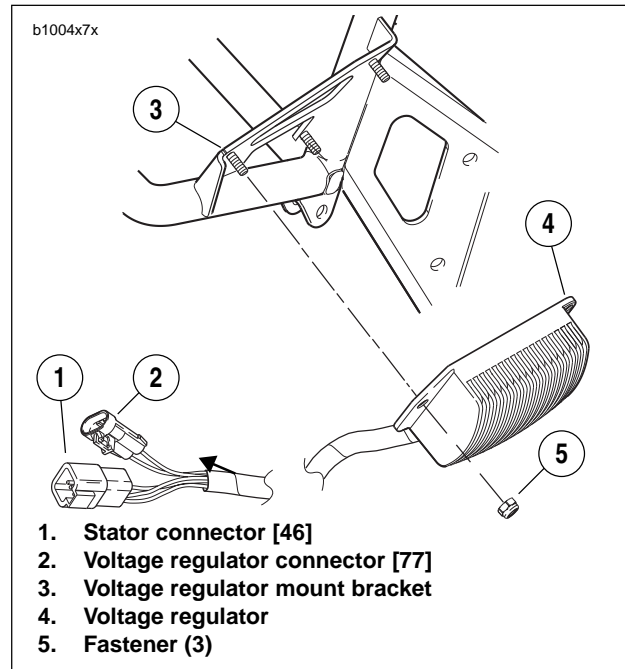

Figure 7-37. Voltage Regulator
3. See Figure 7-37. Disconnect stator connector [46] (1) and voltage regulator connector [77] (2) located under sprocket cover. See 7.24 INTERACTIVE EXHAUST HARNESS(XB12 MODELS).
4. Remove fasteners (5) and voltage regulator (4) from bracket (3).
1. See Figure 7-37. Attach **new** voltage regulator (4) to bracket (3). Tighten **new** fasteners (5) to 48-60 **in-lbs** (5.4-6.8 Nm).
2. Connect stator connector [46] (1) and voltage regulator connector [77] (2) located under sprocket cover. See 7.24 INTERACTIVE EXHAUST HARNESS(XB12 MODELS).